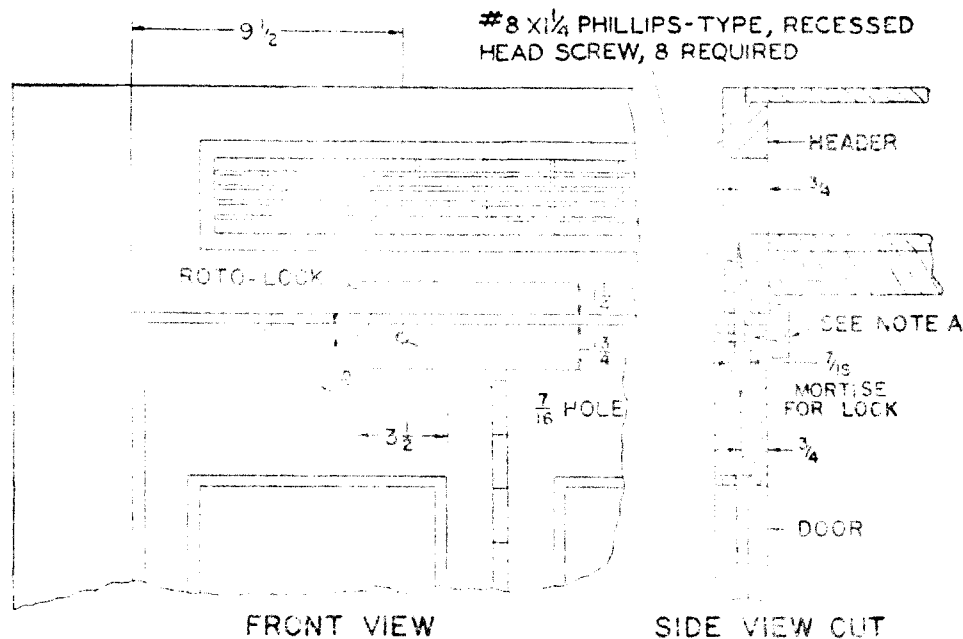

Fig. 12—Installing the Roto-Lock
10.01 Methods for installing the Roto-Lock in doors of indoor- and outdoor-type wood telephone booths at attended locations are illustrated in Fig. 12 and described in 10.02.
- (1) Remove the guide pin and door stop to enable the booth door to swing out.
- (2) Drill and cut out mortise in booth header and door, observing dimensions in Fig. 12.
- (3) Mount male and female components flush with surface of door and header.
- (4) Viewed from the outside, the lock shall be assembled so as to engage when turned in a clockwise direction.